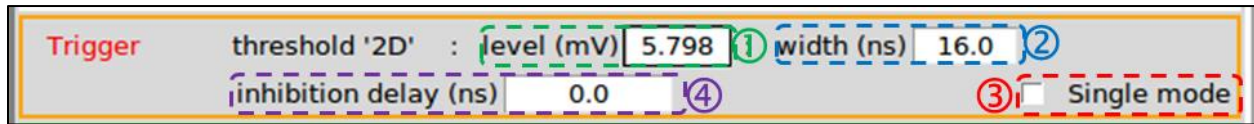
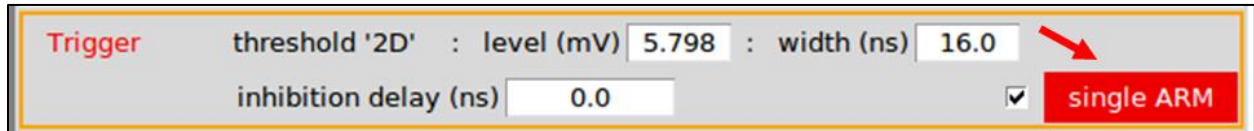

Figure 20: parameters of the threshold discriminator.
Figure 22: "Single Arm" button
All input pulses of the Trigger module, whose signal has crossed the threshold “Level” (Figure 20 ①) on rising edge and remains above this level during at least the duration “width” (Figure 20 ②), are detected.
By checking “Single mode” (Figure 20 ③), the “Single Arm” button appears (Figure 22). A cursor click on this button will trigger a single pulse detection.
Finally, the experimenter can adjust the minimum duration between two detections with the “inhibition delay” parameter (Figure 20 ④), in order to ensure dead time duration (cf. § III.I ). It is a multiple of 8 ns between 0 ns and 17 s. To count the ions number correctly, this duration must not exceed the pulse duration.